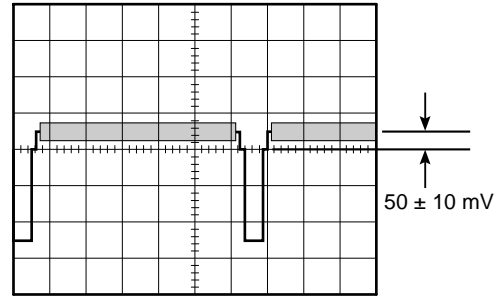

Fig. 5-5
- Adjust VR3 so that the Pedestal signal level becomes 50 ± 10 mV as shown in Fig. 5-5.